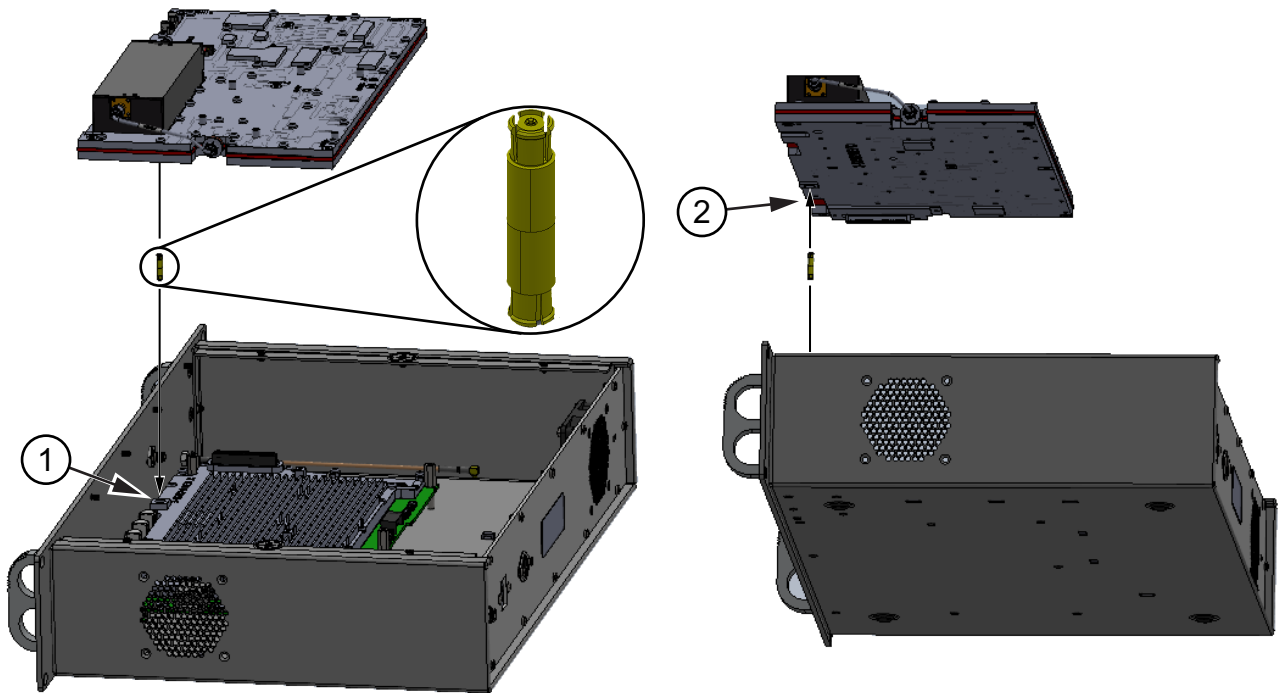

Figure 3-8. SMP Jack-to-Jack Adapter Removal
2. Carefully remove the SMP Jack-to-Jack adapter located between the VSA and the Main PCB shown at location 1 by gently squeezing with your fingers and pulling the adapter straight up. See Figure 3-8.
Note When reinstalling the VSA, ensure that the SMP Jack-to-Jack adapter shown at location 1 is perpendicularly aligned between the VSA and the Main PCB shown at location 2. See Figure 3-8.